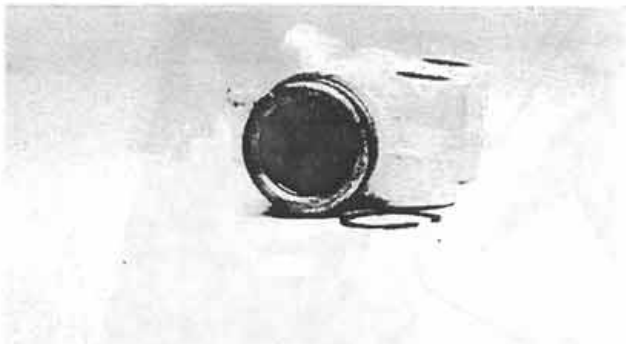

Figure 3:
5. Using a snap ring pliers or screwdriver (depending on the type of snap ring used), remove the snap ring (Fig. 3).